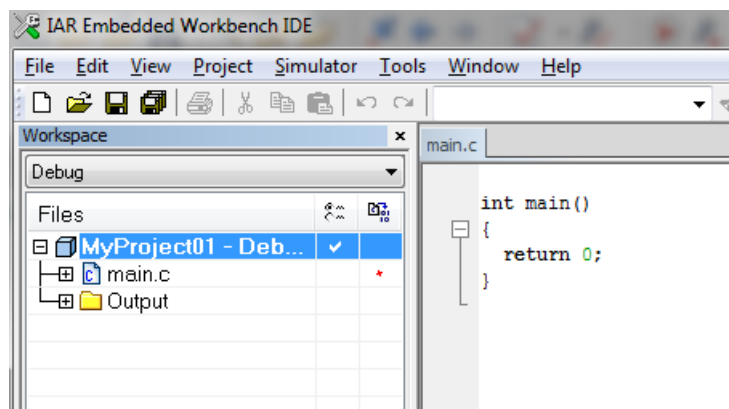

Figure 1-28. New project
4. Navigate to the folder where you want to create the project, for example, C:\IARProjects\MyProject01. Type the name of the project, for example, MyProject01. Click Save, and a new project is created. The new project is now visible in the left-hand part of IAR Embedded Workbench. See Figure 1-28.